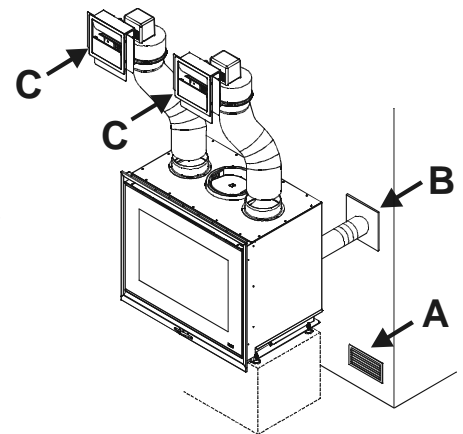

Figure 3 – Forced convection
This operation is necessary to ensure proper operation of the COMFORT AIR KIT. If the combustion air intake is not connected directly to the an external air intake (B), it will be obligatory to provide an air intake (A) that has a free passage of not less than 150 cm² so that natural fresh air flows into the room of installation (preferably inside the cladding).Figure 3